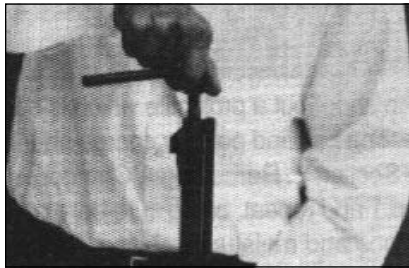

Figure 5
- N c. Use short end of bullet starter to press bullet just into muzzle. (See Figure 5).